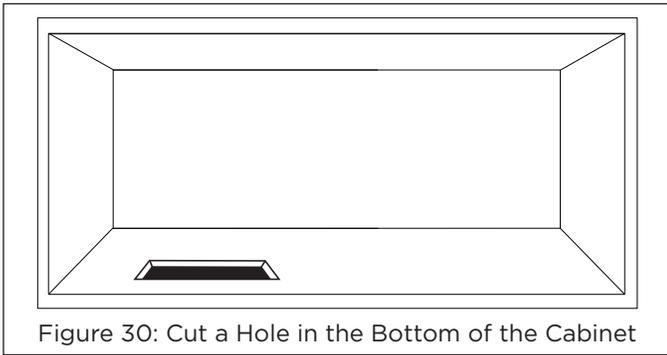

Figure 30: Cut a Hole in the Bottom of the Cabinet
5. If unable to access the baseboard/toekick from within the cabinet, measure and cut a hole in the bottom shelf within the cabinet large enough to move the PPX toekick connector into position. For 90-Degree toekick connectors, the hole should be 16" wide and 8" deep, beginning the cut close to the front of the cabinet shelf and in line with the toekick grille position. Recommended to cut 1" inward from the back of the cabinet baseboard (see Figure 30).